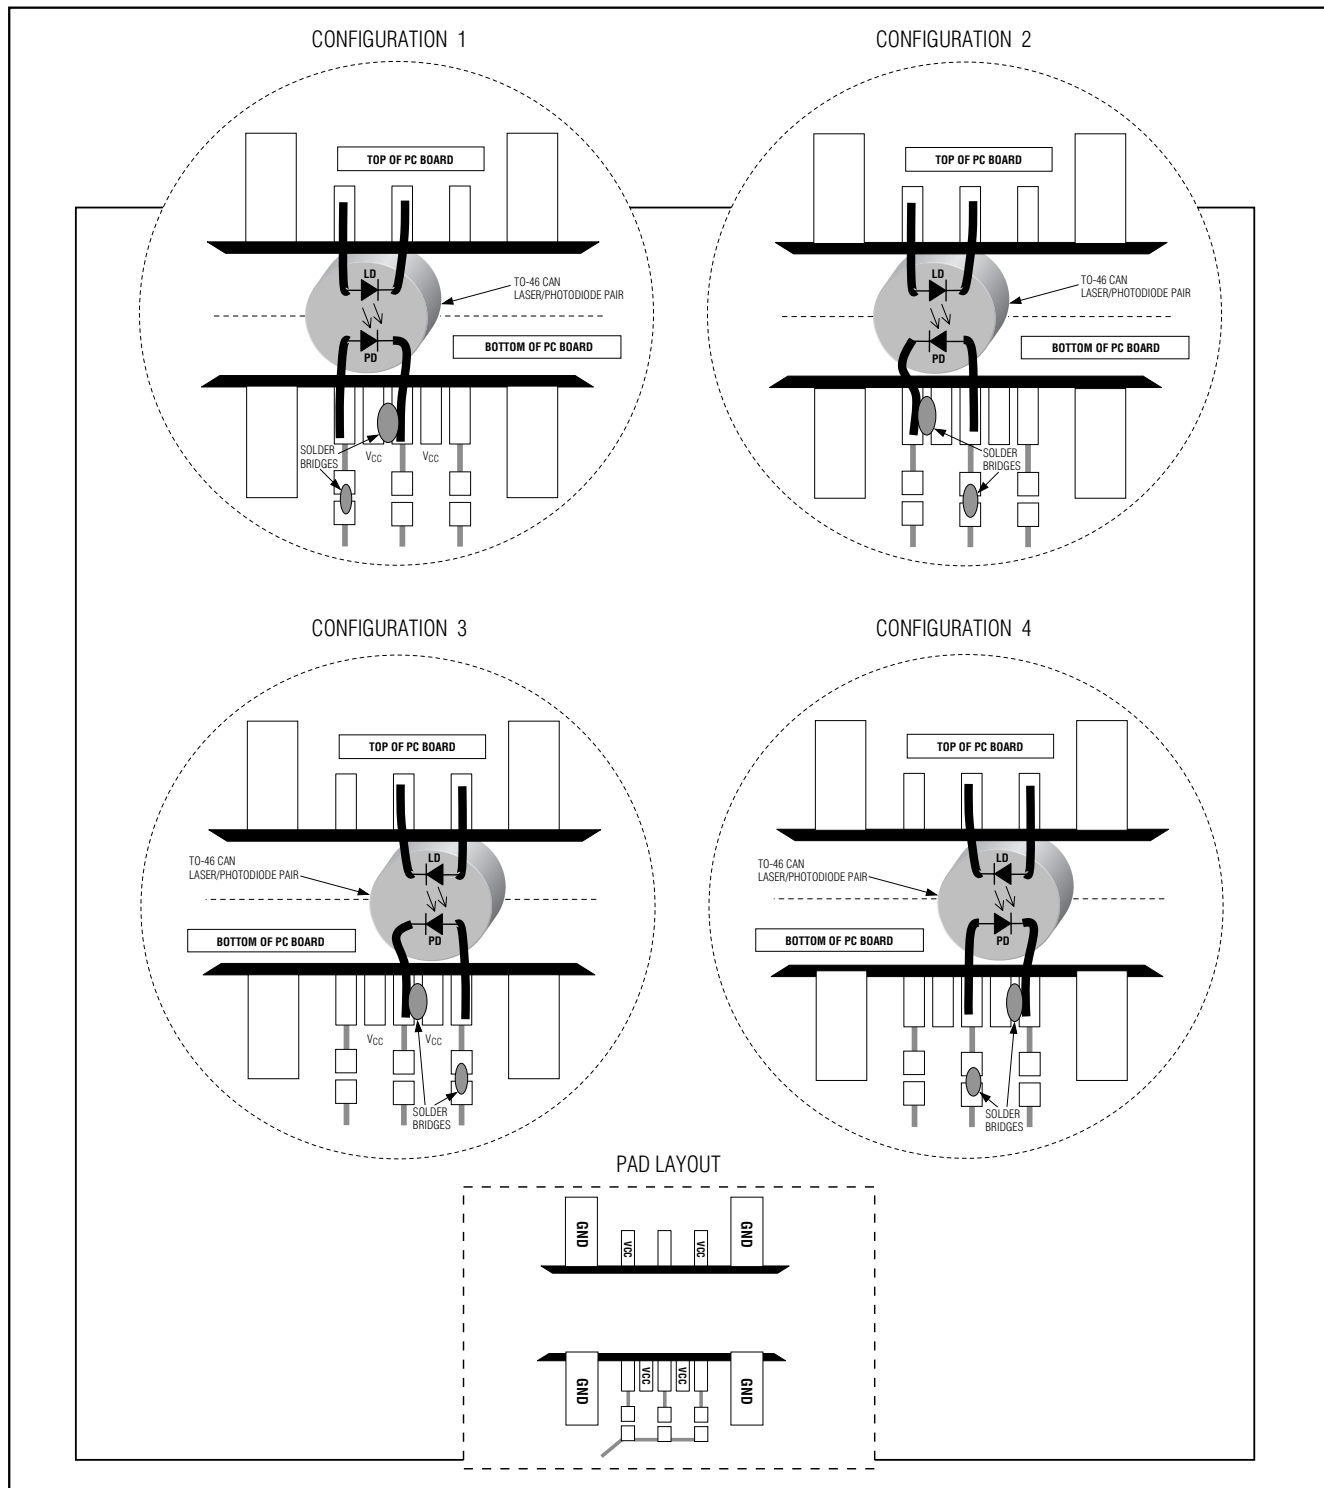

Figure 1. Attachment of Laser/Monitor Diode to the MAX3850 EV Kit
- 3) The EV kit is designed to allow connection of various laser/monitor diode pin configurations. Connect a TO-header style laser with monitor diode (Figure 1) as follows:
- Connect the monitor photodiode to two of the five pads on the bottom (solder) side of the PC board, directly below the laser diode pads. Three of these pads (the middle and outside positions) initially are not connected. The other two pads are connected to V_{CC} . Solder the anode and cathode of the monitor photodiode to any two of the three pads that are not connected. Then connect the anode to the MD pin by shorting the corresponding solder jumper (Figure 1). Connect the cathode to V_{CC} by using solder to bridge to an adjacent V_{CC} pad.